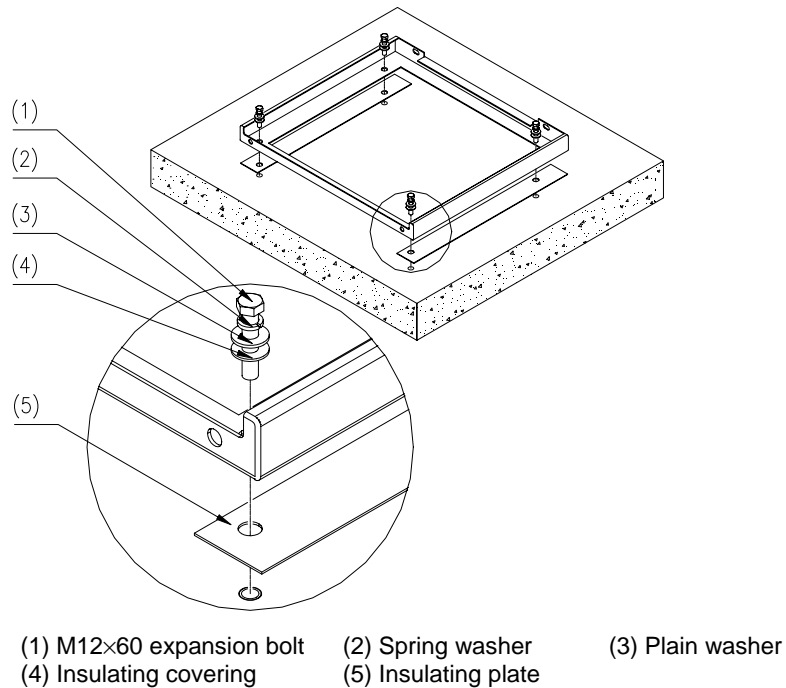

Figure 2-9 Installing the lower support
- 4) Diagonally fasten them to a 45 N-m (400 in-lb), as shown in Figure 2-9.